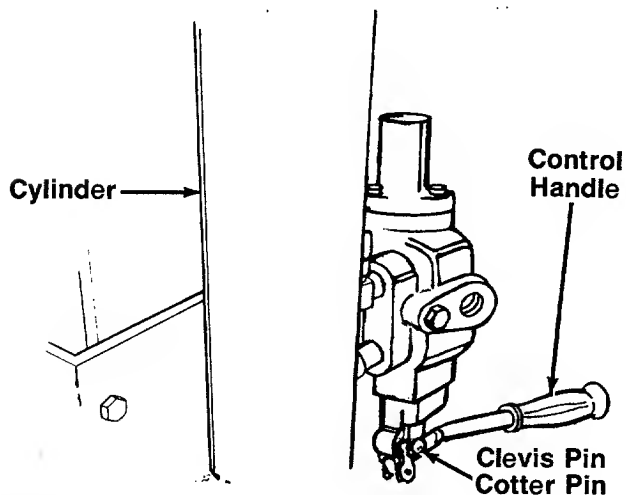

FIGURE 9.
2. The bottom of the control handle is already attached to the valve. Remove the cotter pin and clevis pin which are attached to the valve. Place the handle in position, and secure to the valve using the cotter pin and clevis pin. See figure 9.